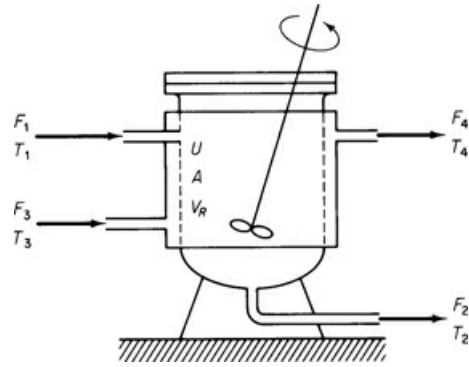

Figure P14.2
14.2 You are asked to perform a feasibility study on a continuous stirred tank reactor shown in Figure P14.2 (which is presently idle) to determine if it can be used for the second-order reaction